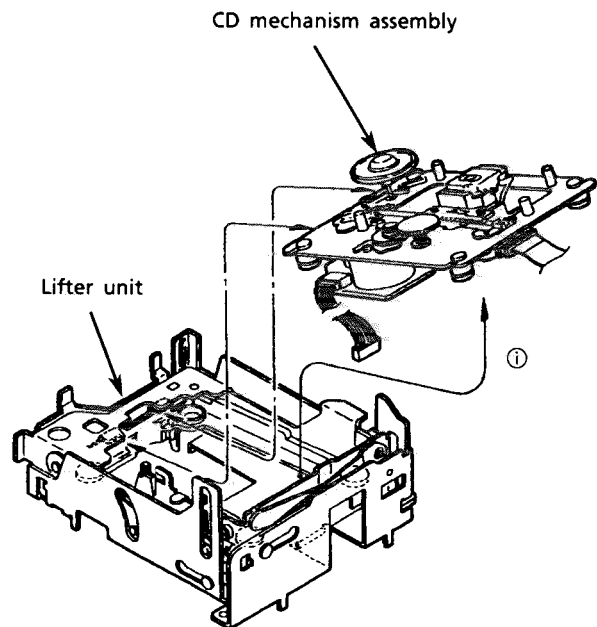

Fig. 30
2. Lift the CD mech. ass'y toward the direction ⑩ to remove it from the lifter unit. (See Fig. 30.)